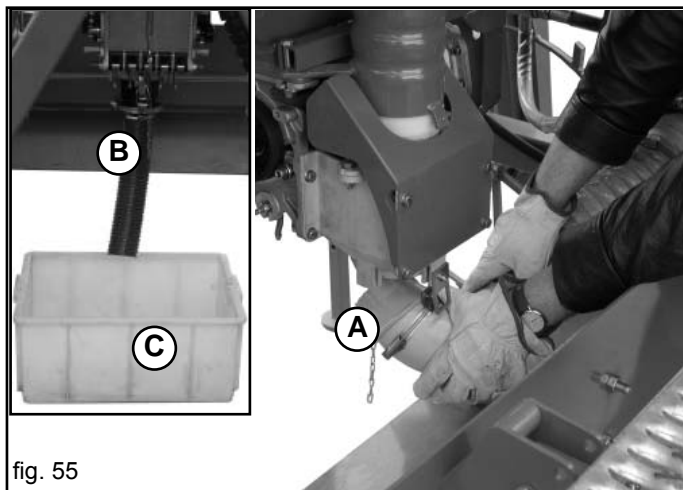

fig. 55
- 2) Remove the bend under the injecting tube (A, Fig. 55), by loosening the quick closing device.
- 3) Then attach the collecting tube supplied with the machine (B Fig. 55) in the same position and place a collecting container at the other end of the tube (C Fig. 55).